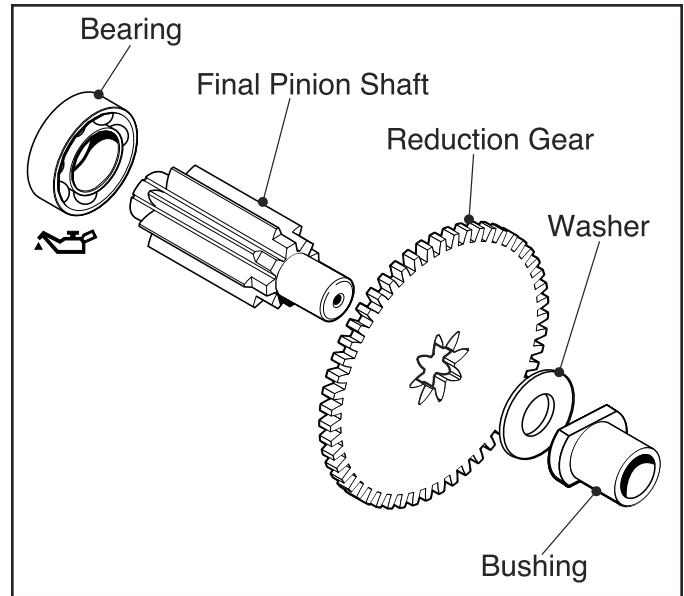

Fig. 42, Pinion Gear Assembly
1. Install Bearing onto Final Pinion Shaft. (Fig. 42)
2. Install Final Shaft Gear, Washer and Bushing onto Final Pinion Shaft. (Fig. 42)